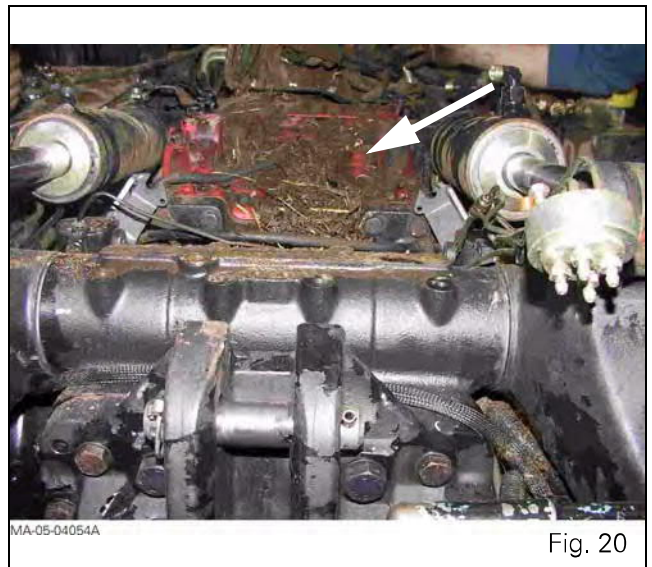

Fig. 20
20. The top of the cover must be cleaned before disassembled (Fig. 20).